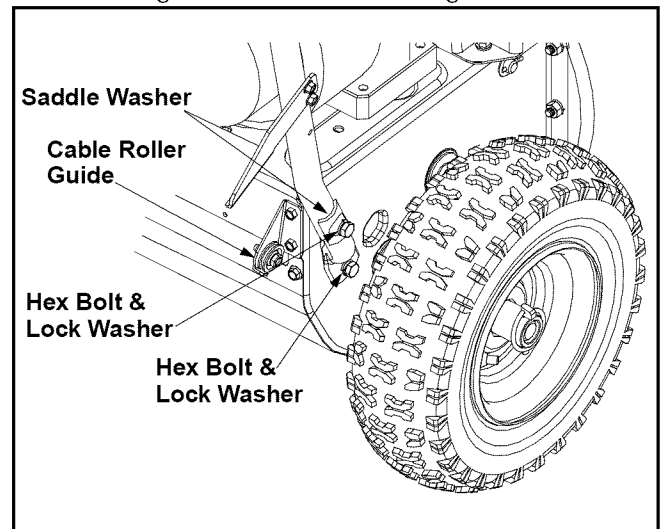

Figure 5
- Make certain all cables are in the grooves of the cable roller guides located in the lower rear of the unit, one on each side. See Figure 5.
- Insert hex bolt and lock washer through these holes to secure the handle to the snow thrower housing. Do not tighten at this time. See Figure 5.
- Place saddle washer over upper holes on handles and secure to the frame with lock washers and hex bolts. Do not tighten now. See Figure 5.